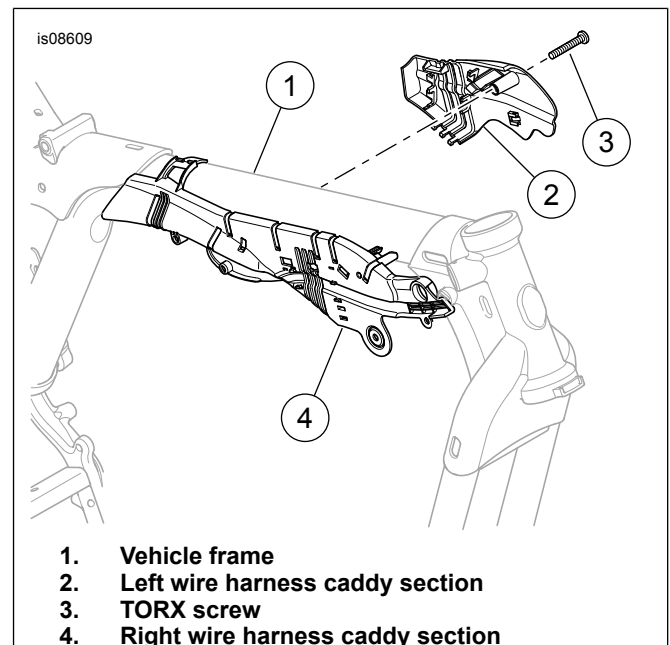

Figure 1. Access Main Harness
3. See Figure 1. Remove TORX screw (3). Separate left caddy section (2) from right section (4) and vehicle frame (1).
8. See Figure 1. Feed the assembled connector [31B], from the outside, into the wire caddy (4) in the right side of the frame behind the steering head.